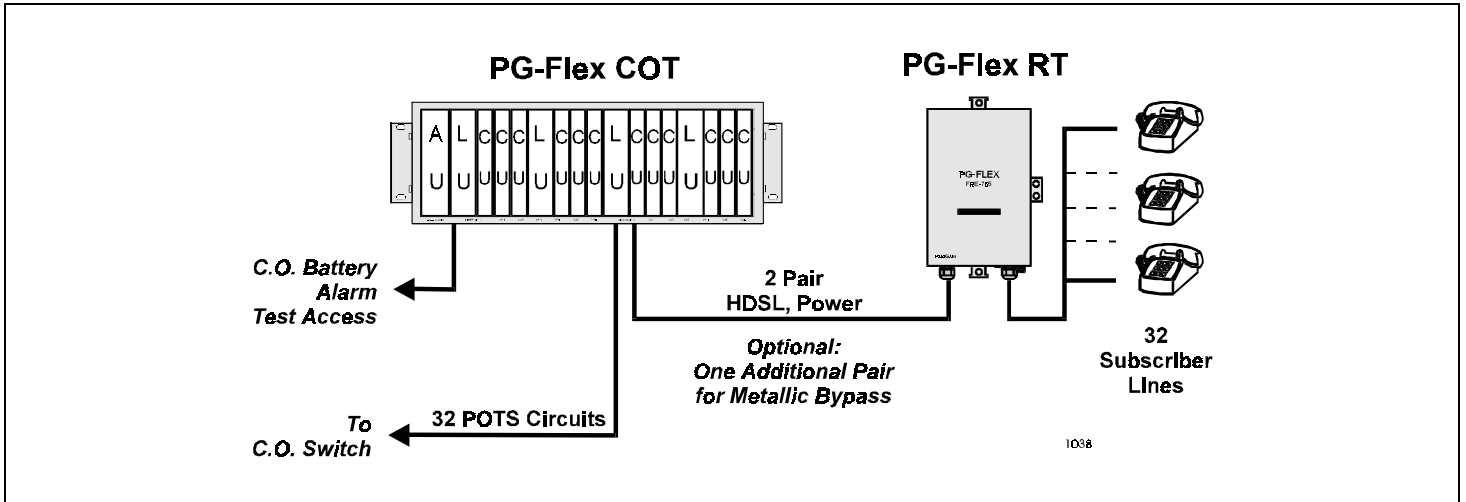

Figure 2. Typical PG-Flex Configuration.
2.02 System Flex Configuration. A PG-Flex system, shown in Figure 2 consists of:
2.05 For the system configuration depicted in Figure 2, the maximum distance between the COT and the RT is 10.7 kft (3.3 km), assuming the HDSL lines are 24 gauge (0.5 mm). Table 1 shows the maximum distance between the COT and RT for various gauge wire. Due to the nature of HDSL transmission technology, the HDSL lines do not require any special conditioning and may include unterminated bridge taps, but cannot include load coils.